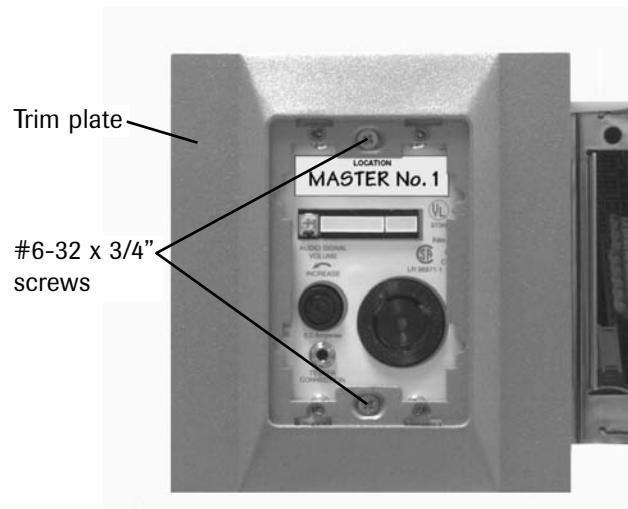

Figure 12
7. Install the trim plate using (2) #6-32 x 3/4" screws. **Do not tighten**. Refer to **Figure 12**.